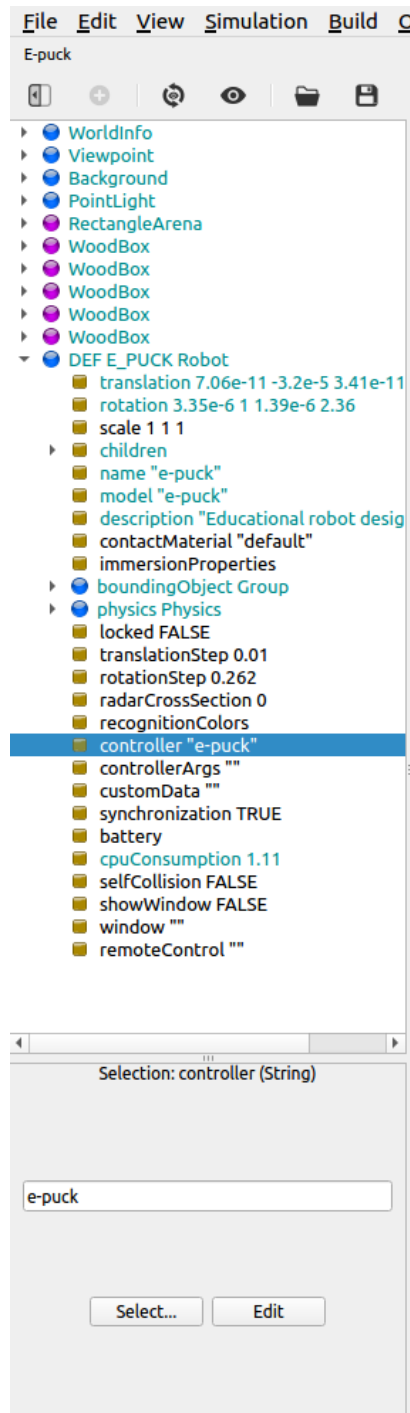

Figure 3- Locating the robot controller in e-puck scene tree.
4. By clicking on the arrow next to 'DEF E\_PUCK Robot' in the Scene Tree, positioning yourself on the *controller* field and clicking Edit, the source code of the controller that the e-puck runs will be displayed in the Text Editor. See Figure 3 for more information.